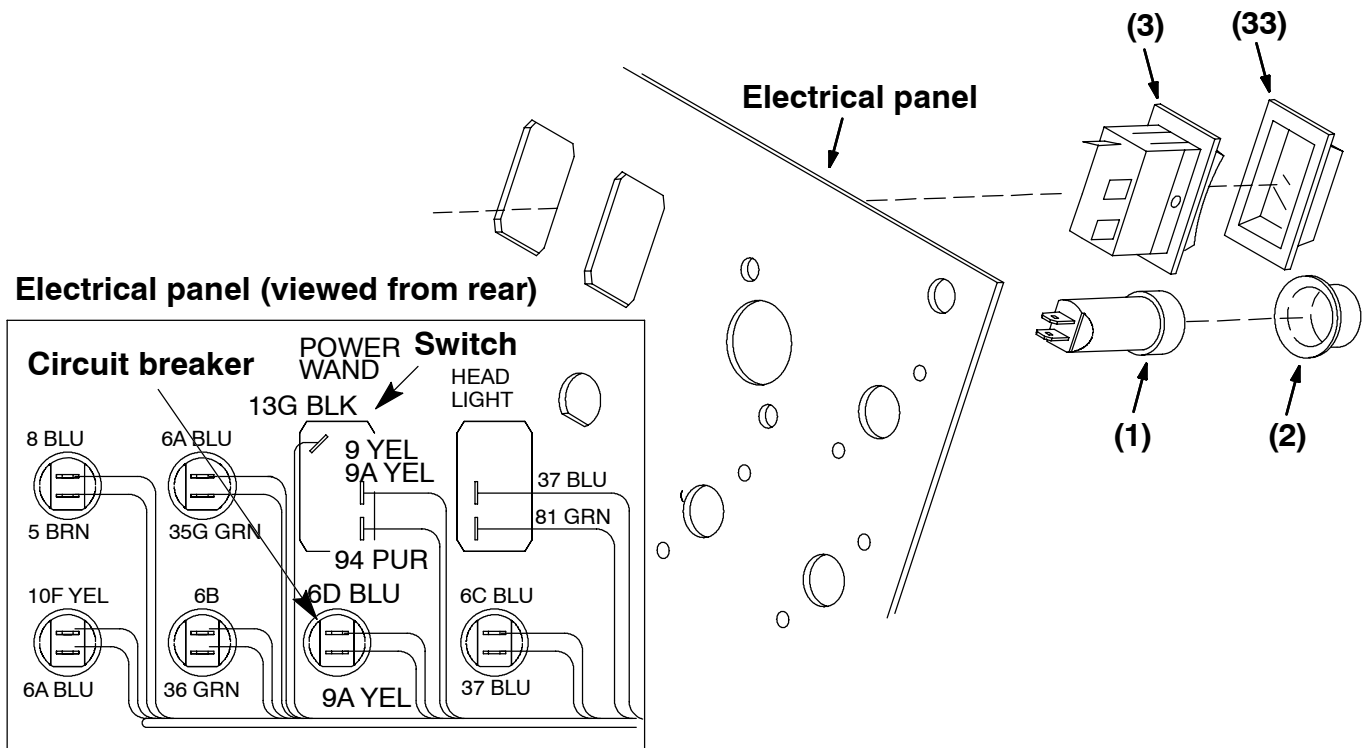

FIG. 1 - Switch And Circuit Breaker
INSTALLATION: (Refer to FIG. 1 through 7)
2. Install the switch (3), switch boot (33), circuit breaker (1), and circuit breaker boot (2) into the electrical panel. (Refer to FIG. 1)
5. Close the electrical panel. (Refer to FIG. 1)